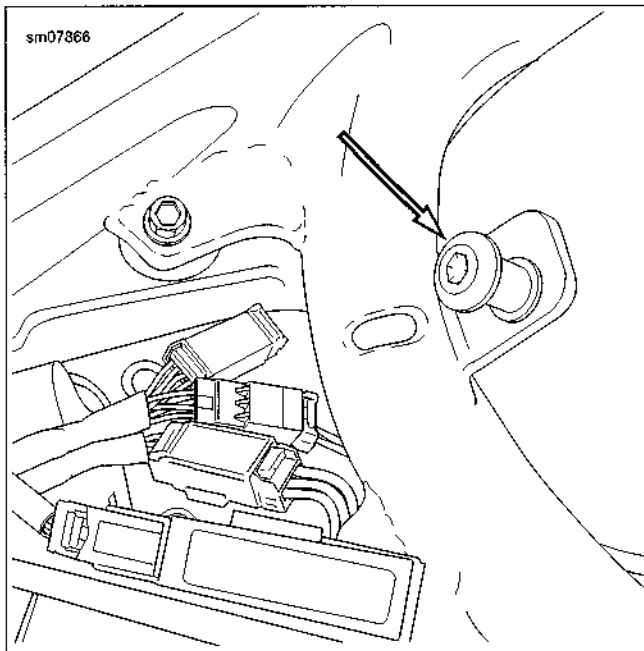

Figure 2-175. Seat Post
3. See Figure 2-175. Lift slightly to detach keyhole bracket from seat post.